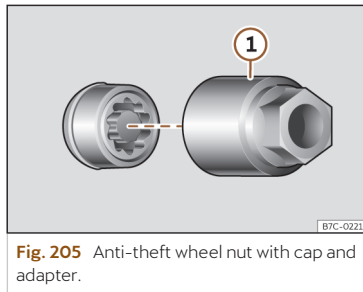

Fig. 205 Anti-theft wheel nut with cap and adapter.
- Insert the special adapter >>> **Fig. 205 ①** (vehicle tools >>> page 305) onto the anti-theft wheel nut and push it on as far as it will go.